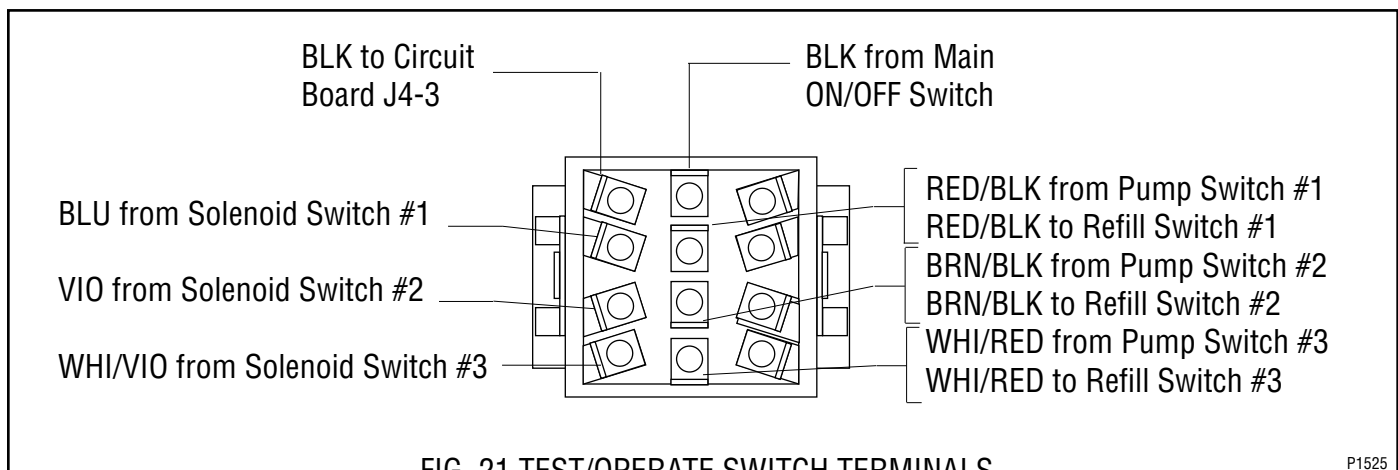

FIG. 21 TEST/OPERATE SWITCH TERMINALS
5. Refer to FIG. 21 when reconnecting the wires.